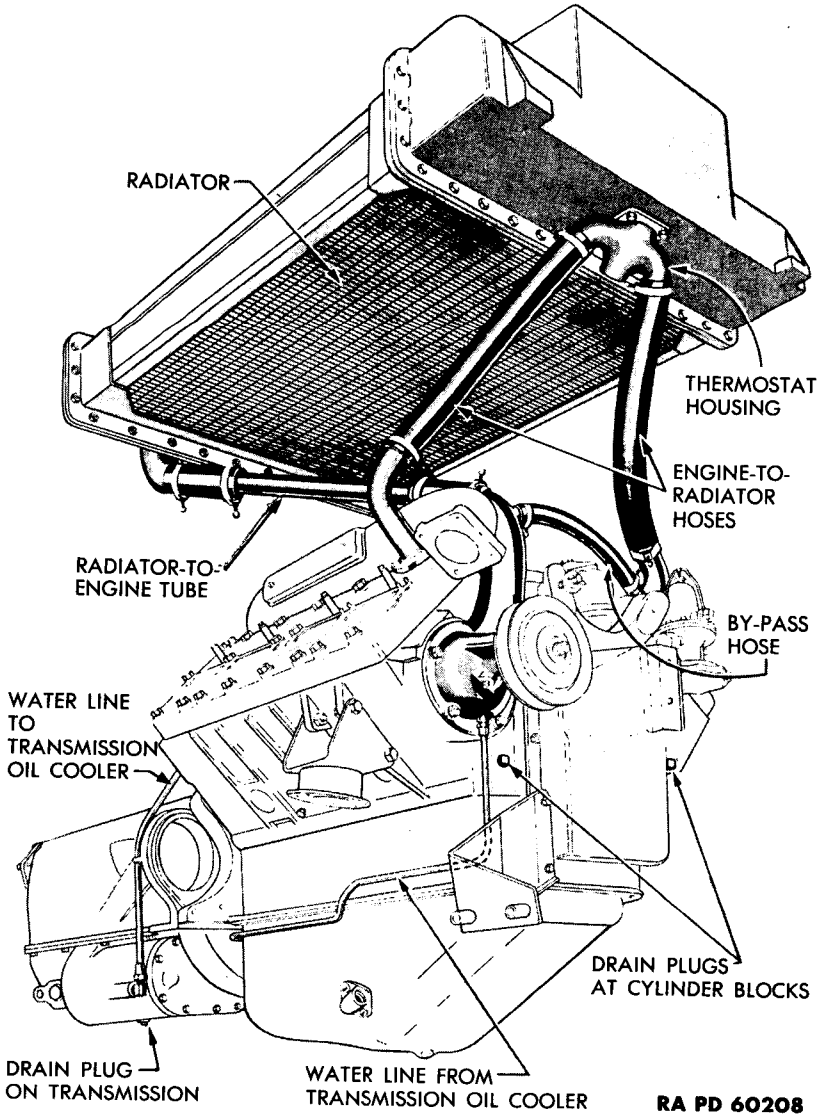

Figure 58 — Cooling System
(1) **DRAIN SYSTEM.** The cooling system should be drained and filled with fresh water or antifreeze every 1,000 miles. Each cooling system is drained at three points. A plug at the bottom of each transmission and two drain plugs at the fan end of each engine must be removed for complete draining of the system (fig. 58). Also remove the radiator cap for rapid and complete draining of the system. **CAUTION:** *Be sure to install all drain plugs before filling the cooling system.*
c. Installation. Hose is installed without gasket paste or sealer. Install clamps on hose, slide in place on connection elbows, and tighten clamp screws securely. When installing radiator-to-water pump connection, first attach the two short hose to the tube (fig. 58). Then insert hose and tube into engine compartment and attach, first to water pump, and finally to radiator outlet elbow. Refill cooling system.